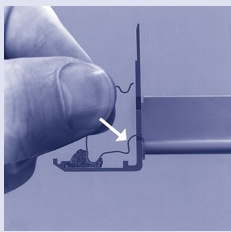

Fig. 2
- Fig. 2 Hinge fixing spring from outside in corresponding slot pair.